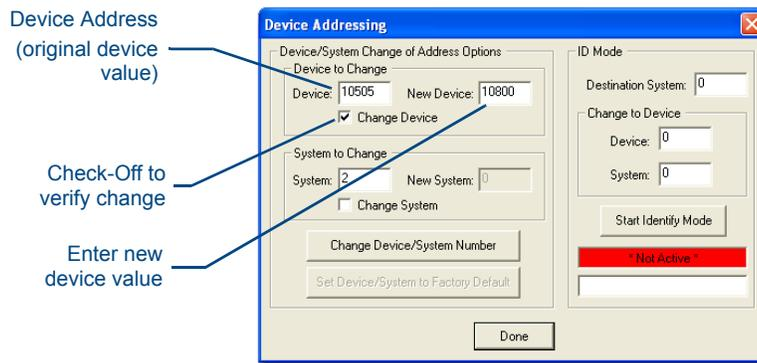

FIG. 17 Device Addressing dialog (changing the device value)
1. Access the Device Addressing dialog (FIG. 17) by either one of these two methods:
1. Access the Device Addressing dialog (FIG. 17 on page 20) by either one of these two methods: